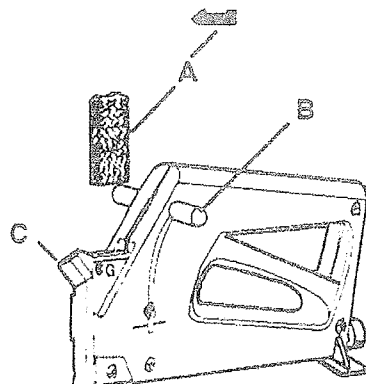

Figure 1
1. To insert a stack of glazing points (A) pull follower knobs (B) up and rotate to the locked position. Figure 1.